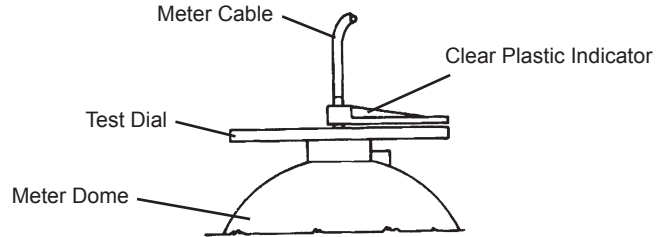
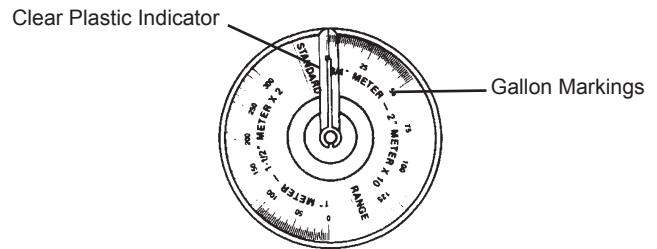

Figure 5
Figure 6
6. Once pressurized check for leaks. Use meter checker (enclosed in package) to check operation. See Figure 5 and Figure 6.